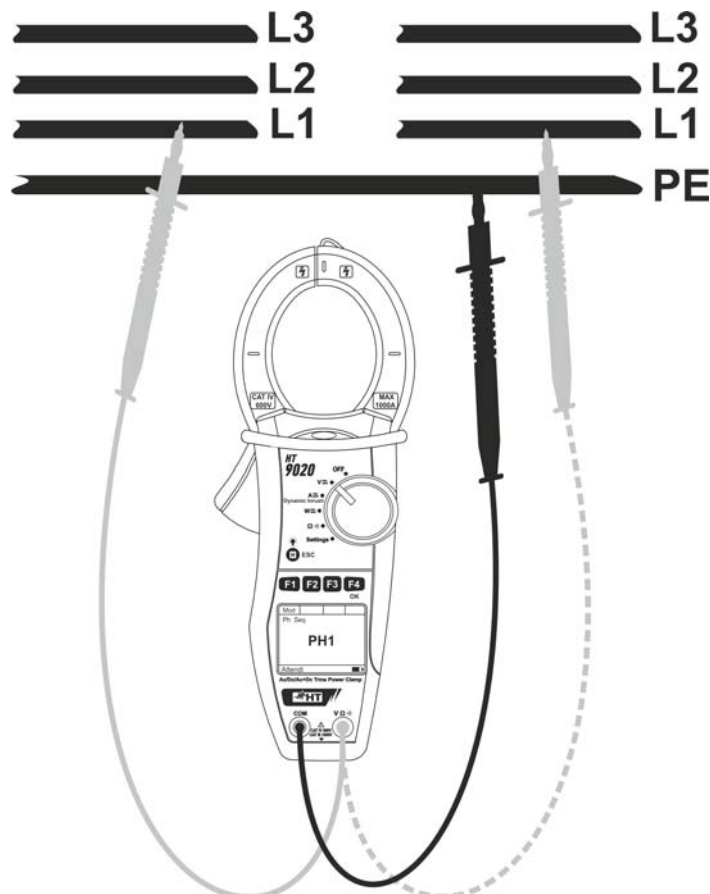

Fig. 8: Verification of phase conformity
2. Connect the red cable to the input lead **VΩ $\frac{1}{2}$** and the black cable to the input lead **COM** then position the leads respectively to the L1 phase of the first system and the ground reference PE of the circuit under test (see Fig. 8)